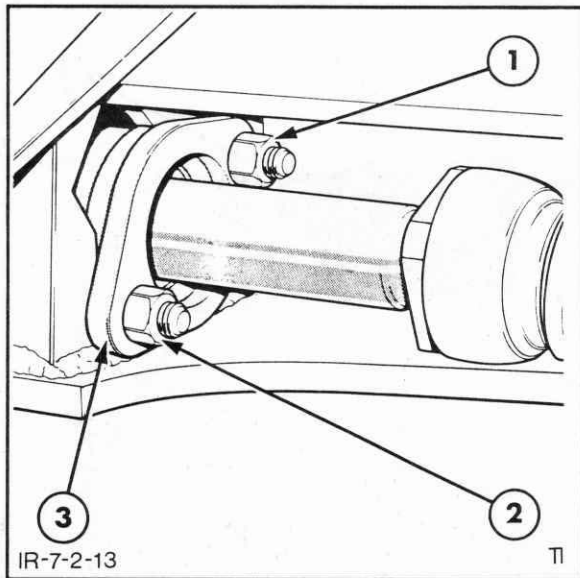

Figure 7-63
7. Remove the two studs which clamp the locking plate to the cylinder and remove the plate, Figure 7-63.